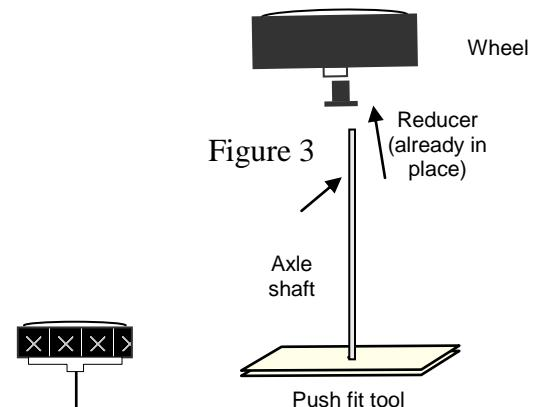

Figure 3
3.2 From a standing position, place one end of the axle shaft (without the white gear) into the push fit tool (Fig. 3.)